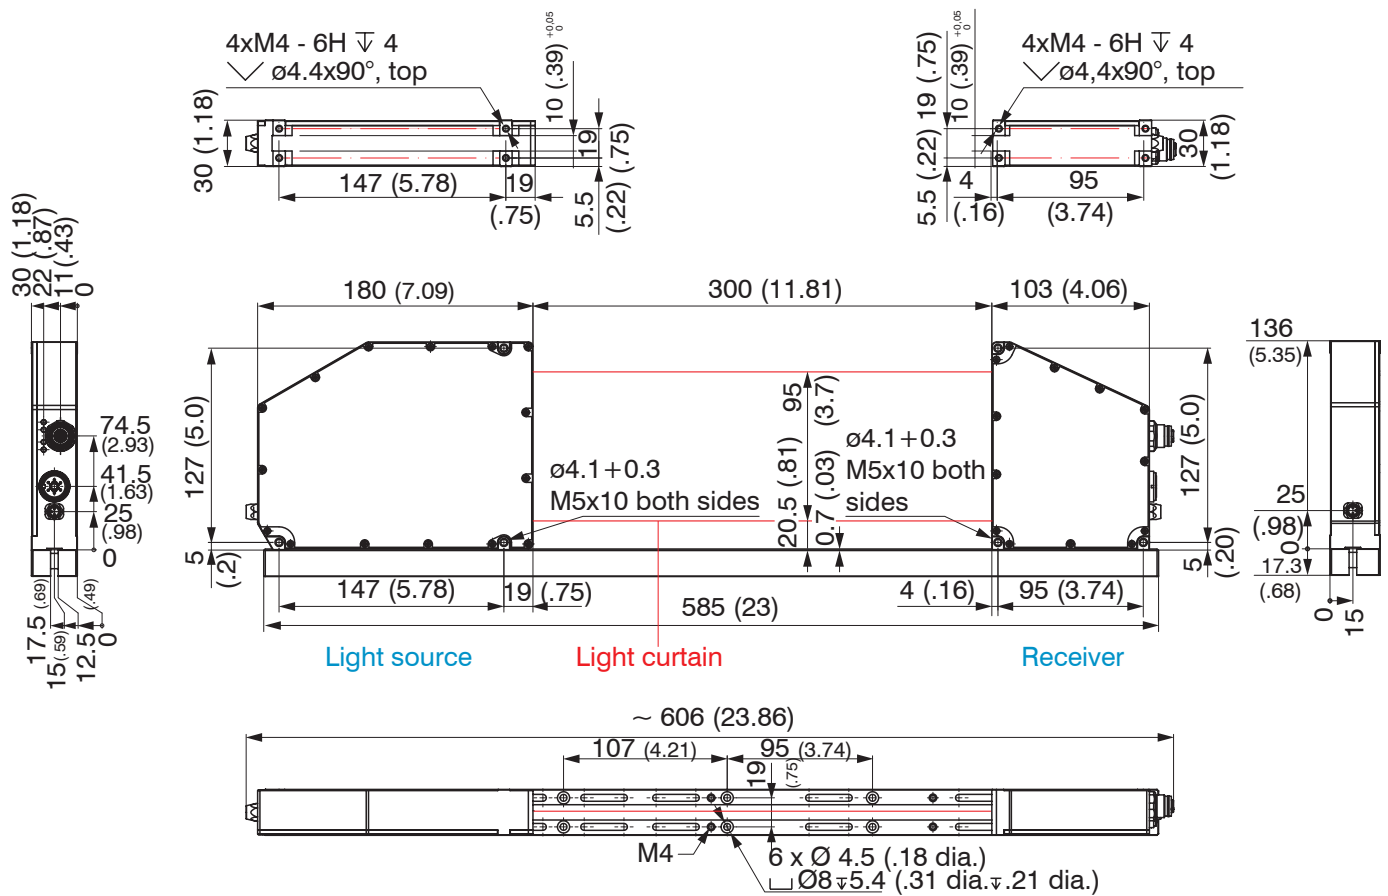
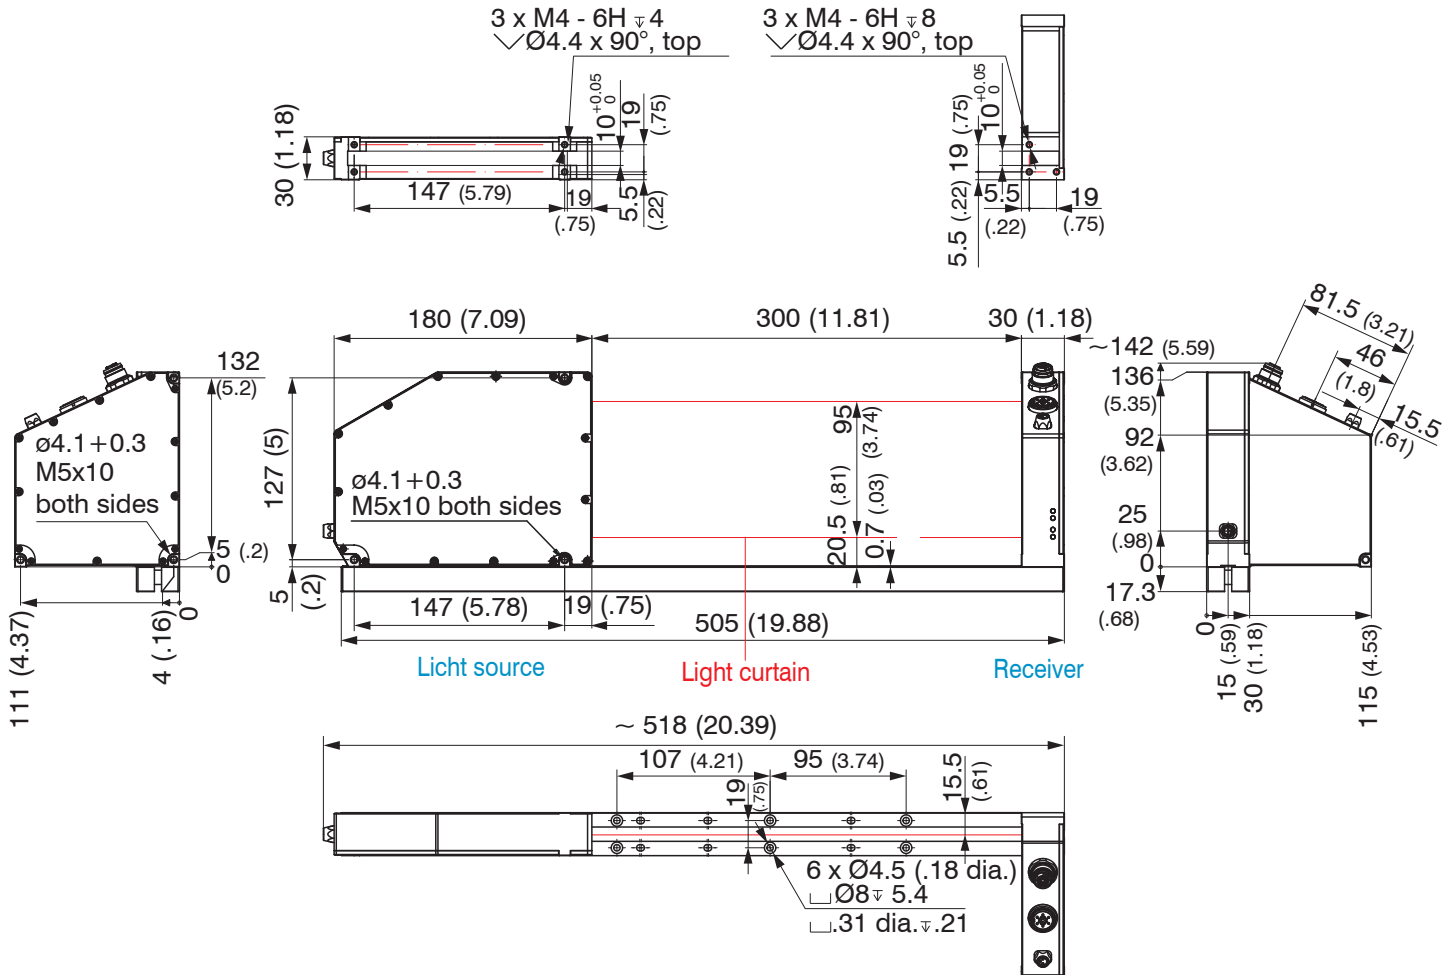

Fig. 12 Dimensional drawing optoCONTROL 2520-95, dimensions in mm, not to scale
Fig. 13 Dimensional drawing optoCONTROL 2520-95(270), dimensions in mm, not to scale
Light source and receiver can be attached using the three through-holes  $\varnothing 4.1 + 0.3$  mm each (bolt connection) or the M5x10 threaded holes on both sides (direct screw connection). The mounting rail also features several  $\varnothing 4.5$  through-holes that are countersunk at  $\varnothing 8$  and M4 threaded holes to attach/receive the measuring system, see Fig. 12.
Please refer to the previous drawings, for the assembly drawing of the optoCONTROL 2520-95 and the option optoCONTROL 2520-95(270) for mounting on the DIN rail, see Fig. 12, see Fig. 13.